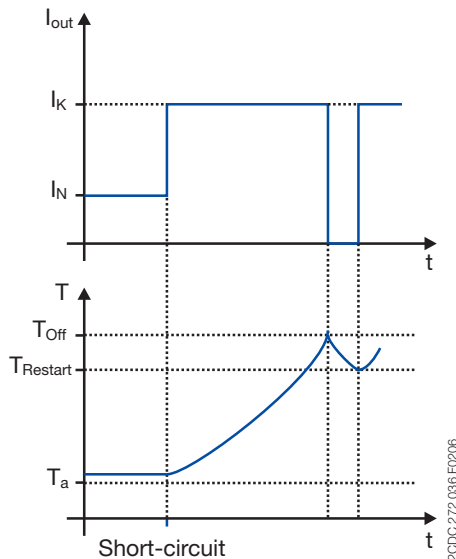

Figure 15 – Thermal switch-off
- The device only switches off the output and does not switch it on until the temperature falls below a certain limit value (refer to Figure 15).